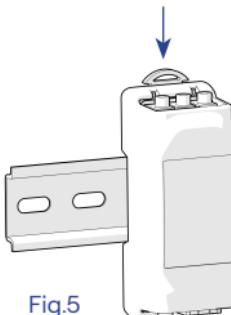

Fig.5
- 4.** The CT box (codes: PM02M, PM02T, PM02T100) can be mounted on a DIN rail by pulling and releasing the designated clip (Fig. 5). The compact CT box (codes: PM03M, PM03T30, PM03T100) can simply be placed freely inside the electrical panel.